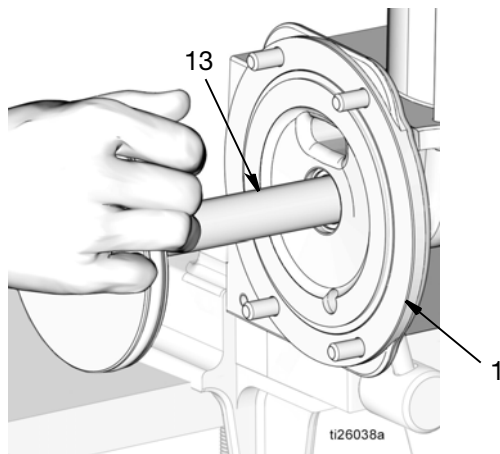

FIG. 50
- f. Apply a thin layer of grease around and along the entire length of the piston rod (13). Gently push the piston rod into the pump base (1) using a push and turn motion to work the rod through the previously installed, seals and spacers (FIG. 50).